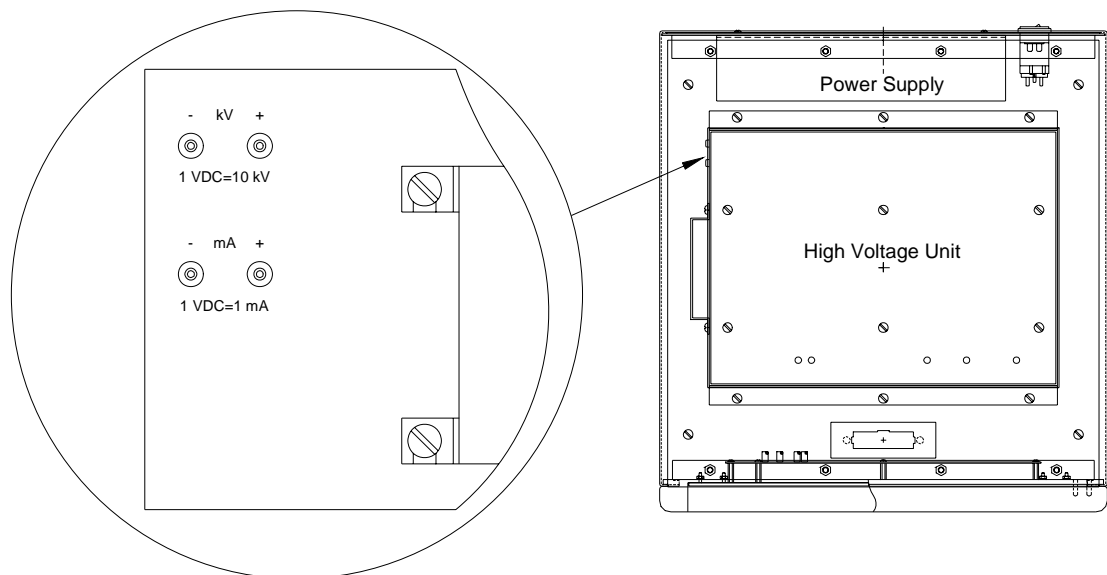

Figure 2-5. Power and Control Sections
4. When the top cover has been removed, inspect all components visible in the power and control sections. See Figure 2-5. Pay special attention to connectors etc. which could come loose during shipment of the unit.
7. Make certain that the cover for the high voltage unit, as shown in Figure 2-5, is secured in its place. Also, in the following steps, be careful not to come in contact with any live circuits exposed in the power and control sections.
10. Check kV and mA calibration by connecting a digital voltmeter to the calibration points shown in Figure 2-5 and making 30 seconds exposures at 10, 20 and 35 kV. Record the values in Table 2-1 for future reference. If the values recorded are not within the reference values, contact your Faxitron X-Ray LLC Sales/Service Office for assistance.